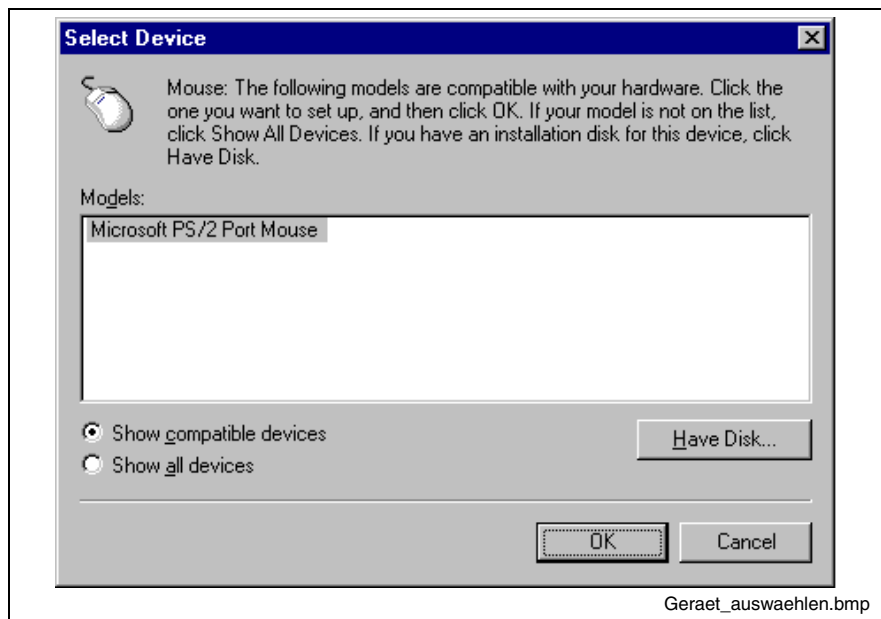

Abb. 5-4: Selection window of the Microsoft PS/2 mouse
- Abb. 5-4: Selection window of the Microsoft PS/2 mouse 5-3